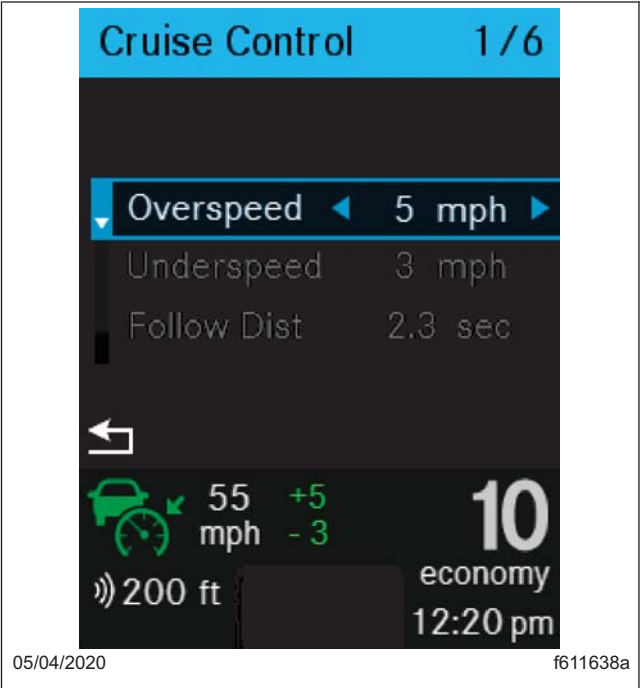

Fig. 3.25, Quick Access Screen: Cruise Control
- Cruise Control (See Fig. 3.25.)
Cruise Control allows the driver to set overspeed and underspeed options and following distance. See Fig. 3.25.